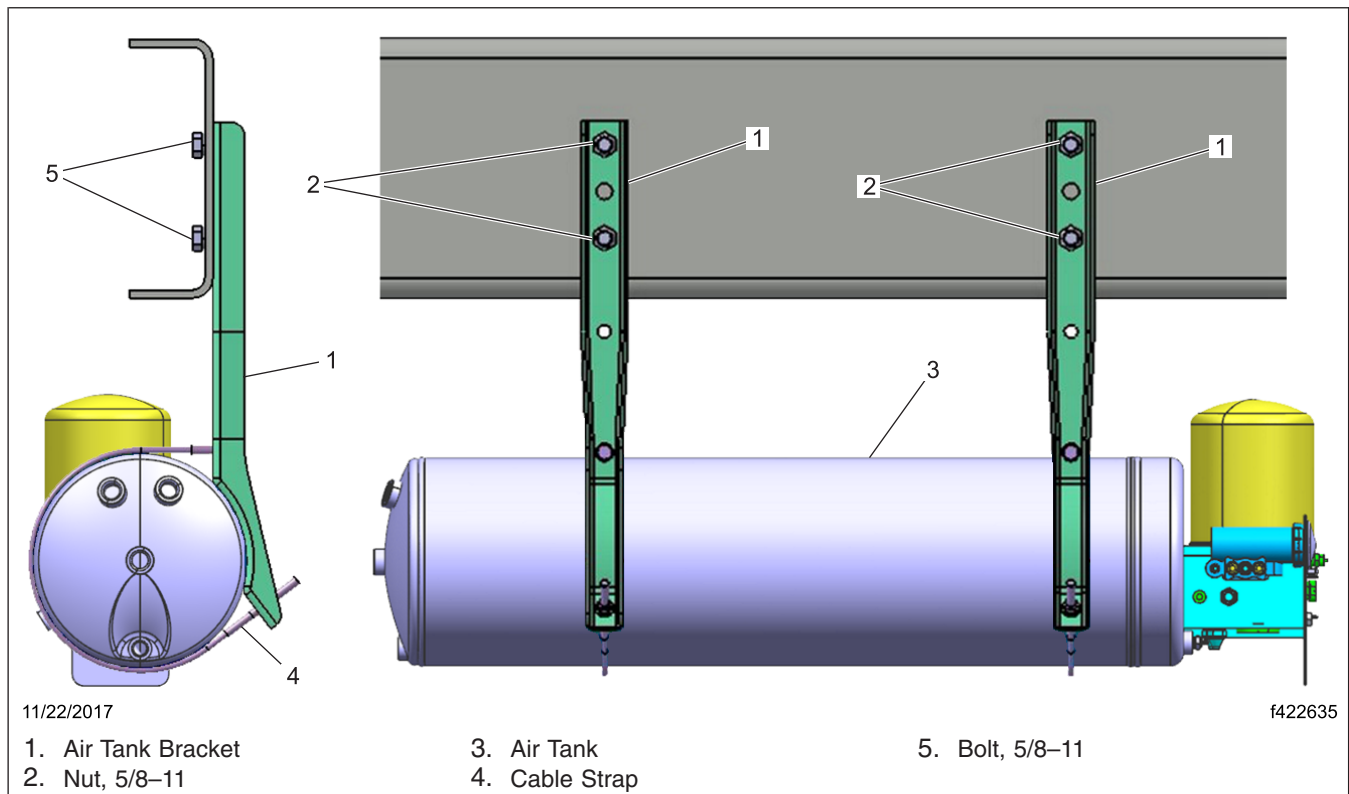

Fig. 1, Air Tank Bracket and Cable Strap Installation
5. Remove the cable strap from the front mounting bracket. See Fig. 1.